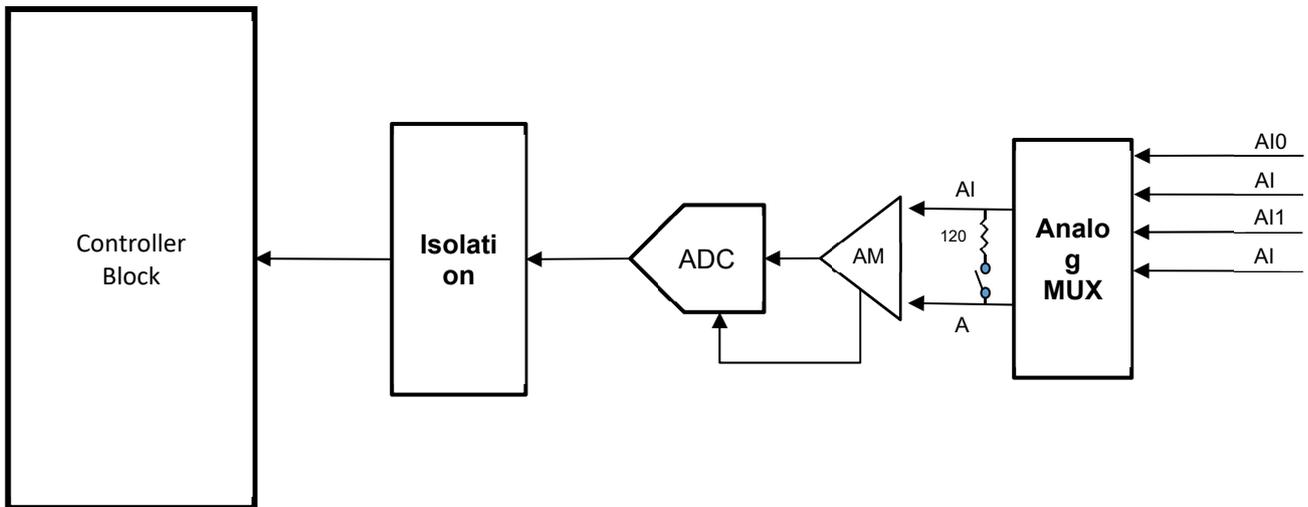

Figure 4.11 - Schematic diagram of AI (Analog Input) Circuit
Figure 4.11 shows schematic diagram of Analog Input (AI) circuit inside the IO5202. The analog signals that arrive to analog channels (AI0, AI1, ...) are relayed through Analog MUX (multiplexer) and amplified through the amplifier circuit (AM). The amplified signal is then converted to digital signal via an internal analog-to-digital converter (ADC). The digital signal is then fed through an Isolation circuit to the Controller Block of IO5202.